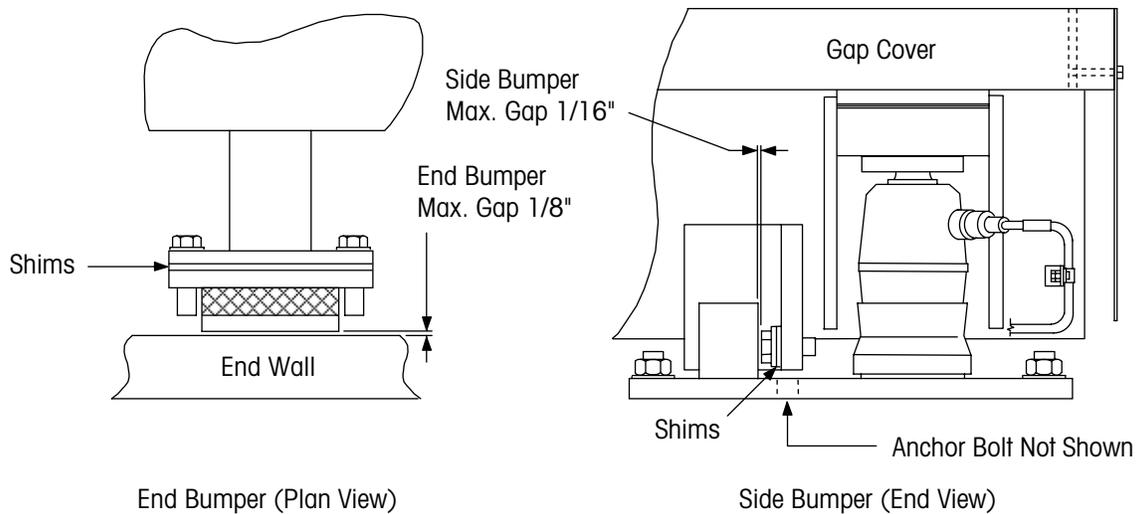

Figure 5-3: Bumper Gaps
10. Set the side bumper gaps and end bumper gaps as shown in Figure 5-3. Add shims as needed to adjust the bumper gaps.